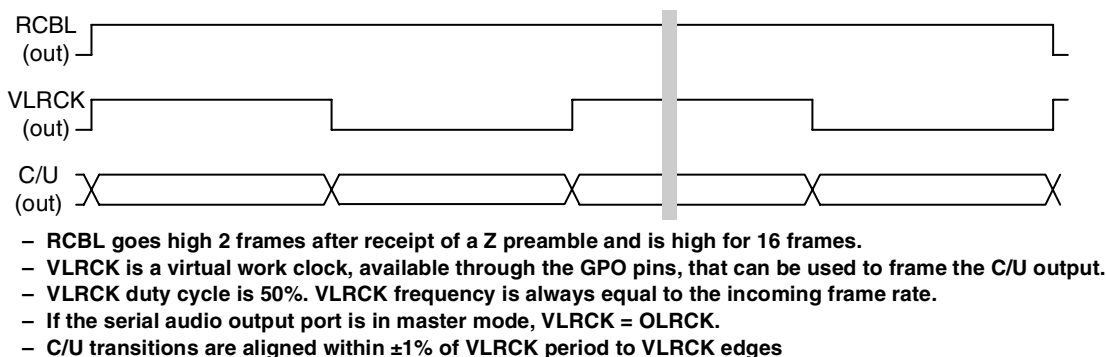

Figure 10. C/U data outputs
Received Channel Status (C), User (U), and $\overline{\text{EMPH}}$ bits may also be output to the GPO pins by appropriately setting the GPOxSEL bits in control port registers 02h and 03h. In serial port master mode, OLRCK and RCBL can be made available to qualify the U data output. In serial port slave mode, VLRCK and RCBL can be made available to qualify the U data output. VLRCK is a virtual word clock, equal to the receiver recovered sample rate, that can be used to frame the C/U output. VLRCK and RCBL are available through the GPO pins. Figure 10 illustrates timing of the C and U data and their related signals.
In Hardware Mode, Received Channel Status (C), and User (U) bits are output on pins 19 and 18. In serial port master mode, OLRCK and RCBL are made available to qualify the C and U data output. Figure 10 illustrates timing of the C and U data and their related signals.